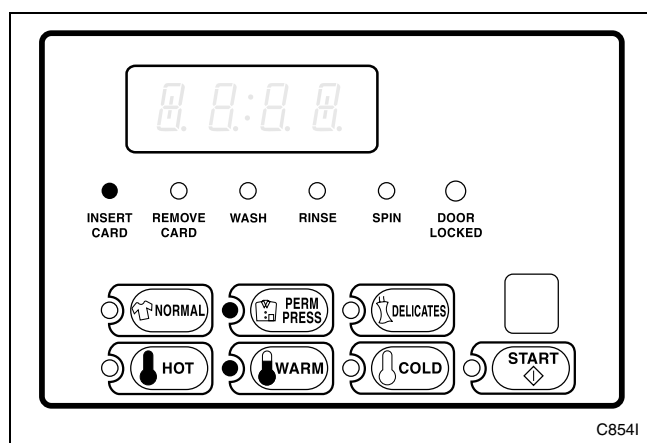

Figure 2
When power is applied to the washer, the control will display *INSERT COINS/CARD*, the decimal point, and the vend price. The *INSERT COINS/CARD* light will remain lit until the vend price has been satisfied. The default cycle setting is PERM PRESS, the default wash water fill temperature is WARM, and the default rinse water temperature is COLD. The LEDs will be lit on PERM PRESS and WARM at the start of the cycle. Refer to *Figure 2*. These default settings are owner programmable. Refer to *Programming NetMaster*.
When a cycle is complete, the control will display “:00” until the washer door is opened, a key is pressed, or a coin/card is entered. When one of these three options occurs, the display will revert back to the ready mode. Refer to *Figure 2*.
This feature allows the user to return NetMaster back to the ready mode if coins have been entered but the full vend price has not yet been satisfied. Refer to *Figure 2*.
1. Be sure the washer is in the ready mode before continuing to step 2. Refer to *Figure 2*. If the washer is in an active cycle, rapid advance through the cycle. Refer to the **Rapid Advance Feature**. If coins have been entered, refer to **Clear Vend Feature**.